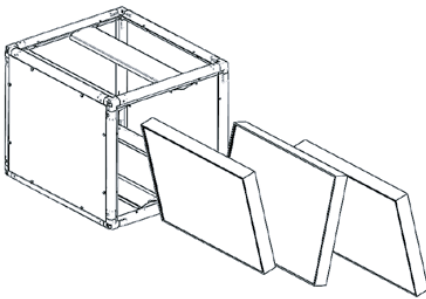

**Fig.14** Filter orientation for 3-Ton.
3. Starting at the bottom, insert new filters, being careful to match the airflow arrows on the filters with those on the air cleaner cabinet. **See Figs. 14 and 15**